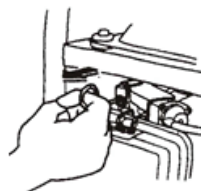

Figure 24
- 2.5 Set the Choke Lever to OFF position (Figure 24)